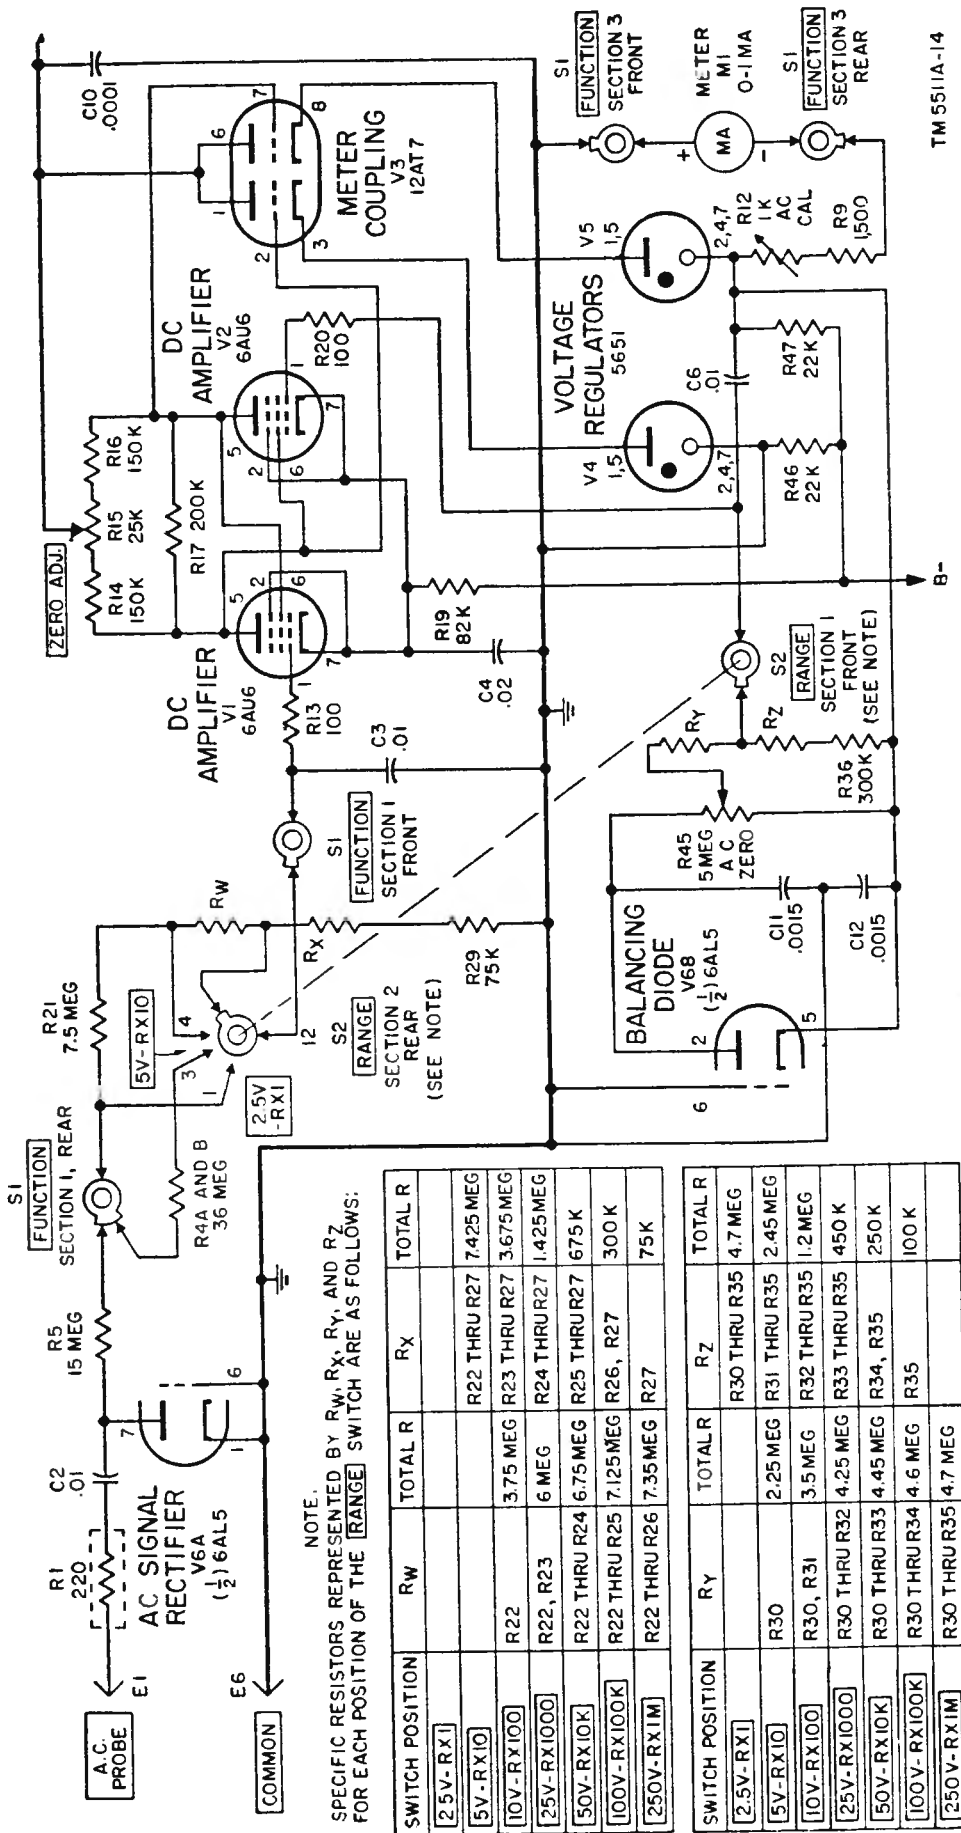

Figure 13. Ac voltage measurement circuit, simplified schematic diagram.
45. Ac Voltage Measurement Circuit (fig. 13)
a. Ac voltages at frequencies from 30 cps to 5 mc may be applied across the AC PROBE and COMMON probe and measured by the ac voltage measurement circuit shown in figure 13. The AC PROBE contains resistor R1 which is located at the point of measurement to prevent capacitive loading of the circuit under test.
c. When in ac position, section 1 of FUNCTION switch S1 couples the pulsating dc input voltage from the precision attenuator (resistors R21–R27 and R29) to the control grid of tube V1. Section 2 of RANGE switch S2 selects an appropriate value of voltage from precision attenuator (resistors R21–R27 and R29) and connects this voltage to the control grid of tube V1. All ac voltages being measured within any range are attenuated by precision attenuator (resistors R21–R27 and R29) to supply a voltage of between 0 and -1.875 volts to the control grid of tube V1. Specific resistors and resistances used to attenuate voltages being measured within each RANGE switch position are listed on figure 13.
f. Ac signal rectifier V6A is always conducting, even with no voltage applied to the AC PROBE, because of the contact potential in the tube. Current flows through tube V6A, resistor R5, and the precision attenuator (resistors R21–R27 and R29) to ground; this applies a constant negative voltage to the control grid of tube V1. To cause the meter pointer to read 0 volt with *no* ac voltage applied to the AC PROBE, counteract the effect of this negative voltage on the control grid of tube V1. Balancing diode V6B supplies a constant positive dc voltage, a selected portion of which is applied to the control grid of tube V2 to counteract, or buck out, the negative voltage on the control grid of tube V1 by balancing the outputs of dc amplifiers V1 and V2. Section 1 of RANGE switch S2 selects the amount of bucking voltage applied to the control grid of tube V2 from the precision attenuator (resistors R30–R36) so that the bucking voltage is always equal to the negative voltage on the control grid of tube V1. Specific resistors used to attenuate the bucking voltage supplied by tube V6B at each RANGE switch position are listed on figure 13.